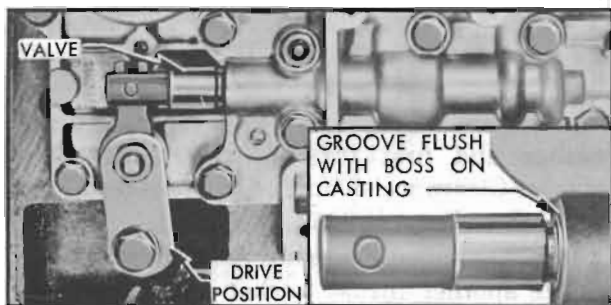

Figure 5-110—Position of Control Valve in Direct Drive Range
8. Move shift lever to Direct Drive position and note position of control valve. The groove in the first land of the valve should be flush with the boss on the valve body. See Figure 5-110.